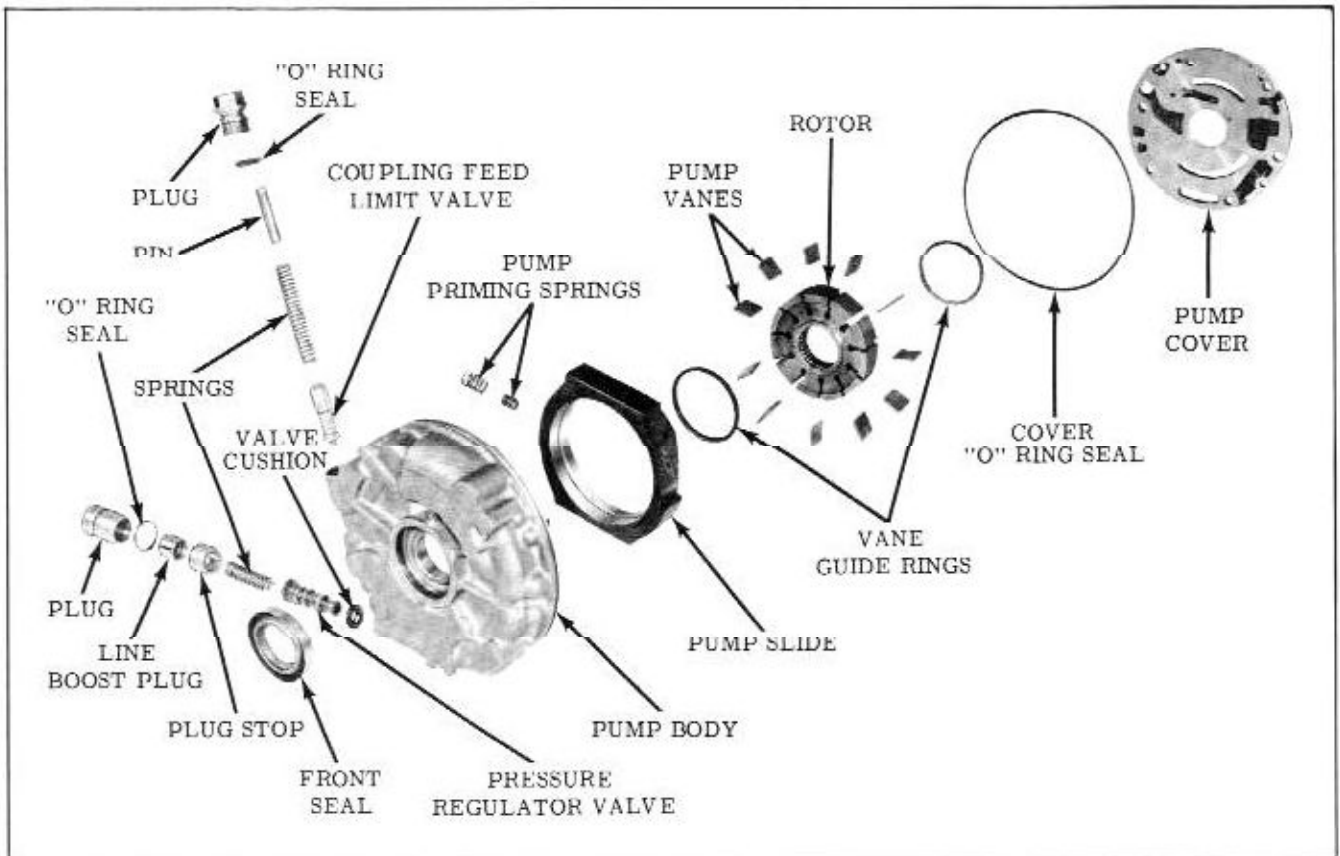

Fig. 3-80 Pump Assembly
Disassembly (Fig. 3-80)
4. Remove three screws retaining the channel plate to case spacer plate, and remove spacer plate. (Fig. 3-80)